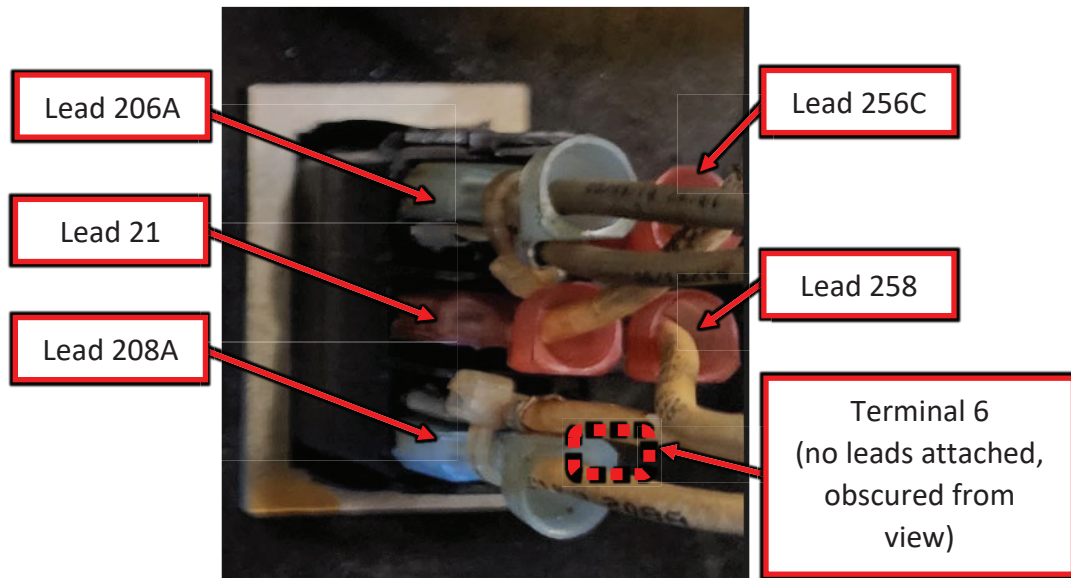

Figure F.2
A.2. Label and disconnect the following connections on the Polarity Switch, refer to Figure F.2..
A.3. Perform the static measurements in Test Table 1, refer to Figure F.2 for test point locations. NOTE: MEASUREMENTS ARE MADE ON THE POLARITY SWITCH TERMINALS WITH THE LEADS REMOVED.